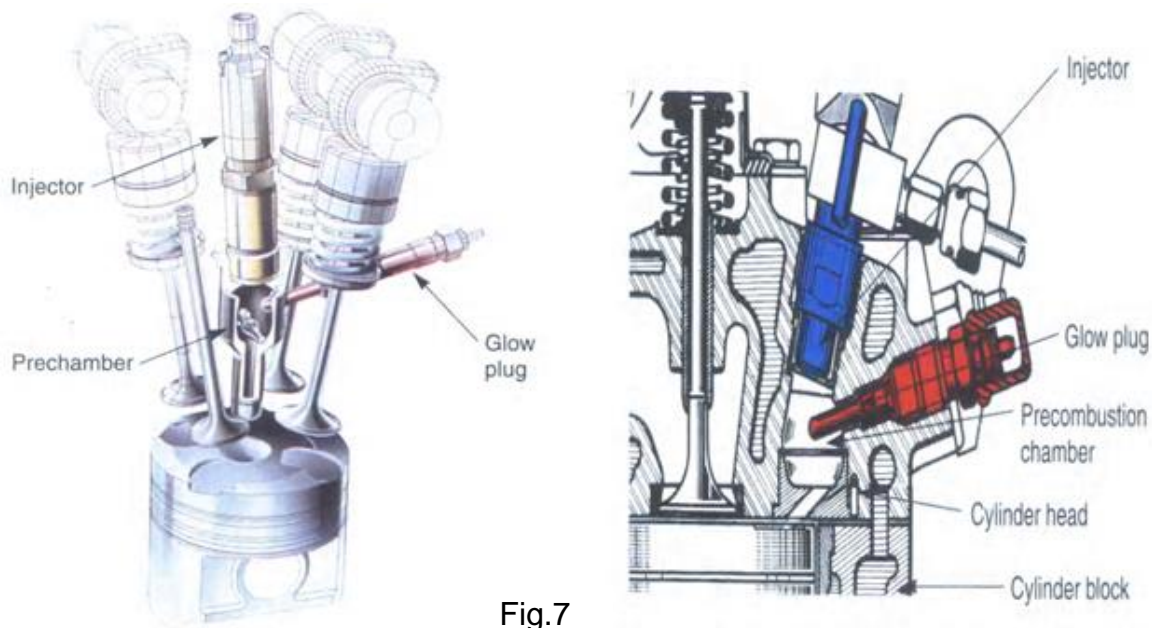

Fig.7
- Also called a diesel pre-chamber, the pre-combustion chamber is used to quiet engine operation and to allow the use of a glow plug (heating element) to aid cold weather starting. Figure 7 shows a cutaway view of a diesel pre-chamber.